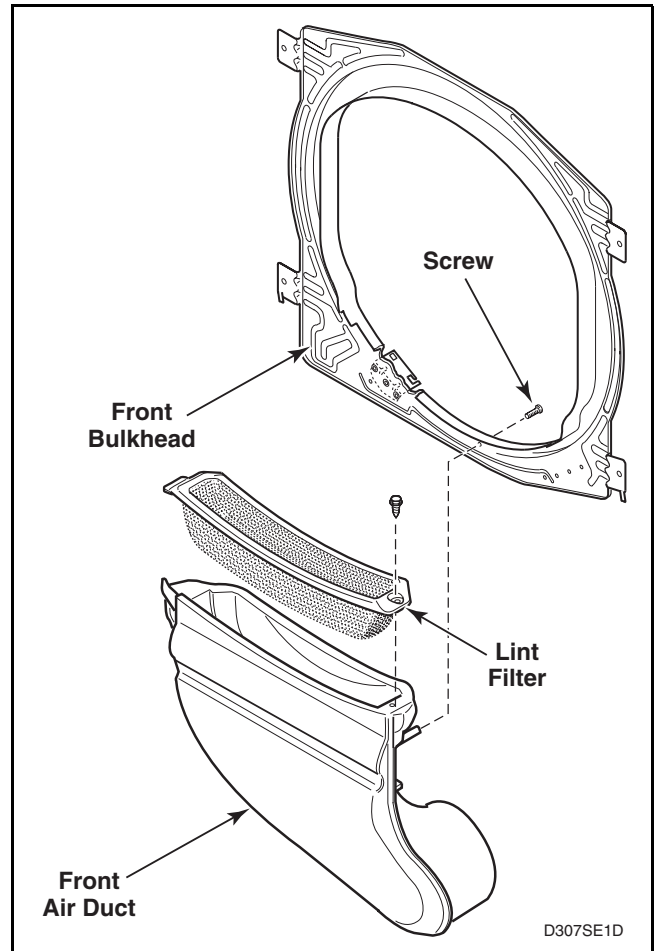

Figure 23
- e. Remove three screws holding the air duct to the front bulkhead inside cylinder. Refer to *Figure 23*.
- d. Remove screws holding air duct to front bulkhead (inside cylinder). Refer to *Figure 23*.